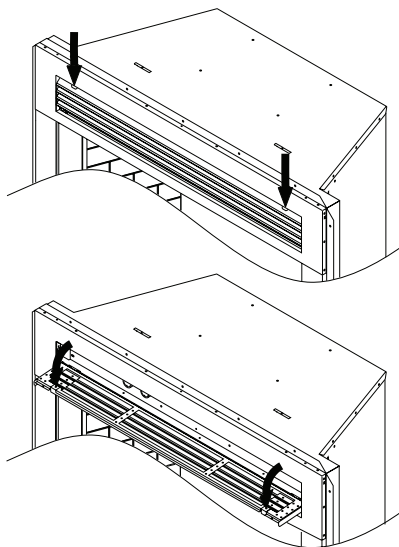
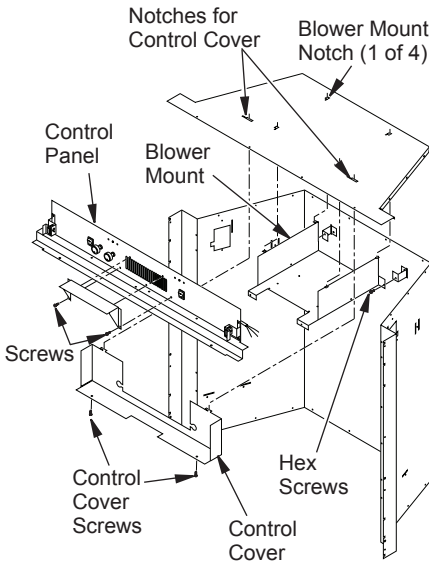

Figure 13 - Accessing Controls
Figure 21 - Disassembling Blower Mount
Access controls by pulling two handle tabs of upper louver until panel releases from magnetic catches and swings down to open position (see Figure 13).
1. Open upper control door (see Figure 13, on page 7) and remove 2 Phillips screws below heater grill on control panel (see Figure 21, page 11).
3. Slide control cover to the right and swing out locking tabs from notched openings on top (see Figure 21, page 11).
5. Remove 2 hex screws at rear of blower mount (see Figure 21, page 11).
6. Slide blower mount towards rear of firebox until locking tabs line up with notched openings and lower mount down and away (see Figure 21, page 11).
20. Raise control cover up and position 2 locking tabs through notched openings in firebox top, then slide to left until locked into position (see Figure 21, page 11).
4. Remove 2 Phillips screws holding control cover to control panel inside firebox (see Figure 21, page 11).
5. Slide control cover to the right and swing out locking tabs from notched openings on top. See detail Figure 21, page 11.